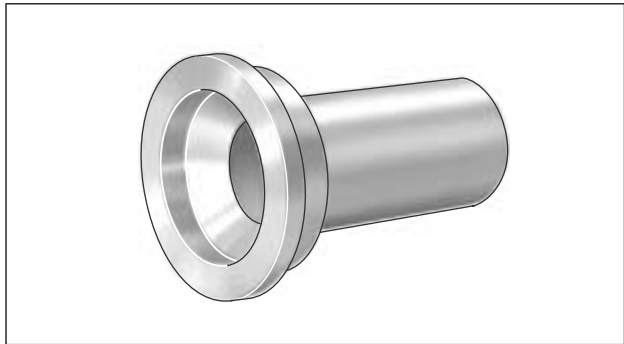

Figure 3-47. Sprocket Shaft Oil Seal Installer (Part No. HD-39361A)
- d. Slide SPROCKET SHAFT OIL SEAL INSTALLER (HD-39361A) over pilot until it contacts oil seal. See Figure 3-47.